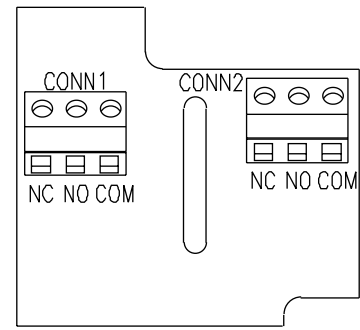

Figure 1
4. Electrical connections to the snap switches are provided by means of terminal block marked "common", "norm open", and "norm closed". See Figure 1. The normally open contacts close and the normally closed contacts open when pressure increases beyond the set point. For failsafe applications, it is recommended to use N.C. contact wiring. Use 14-30 AWG copper wire rated 194°F (90°C) min.